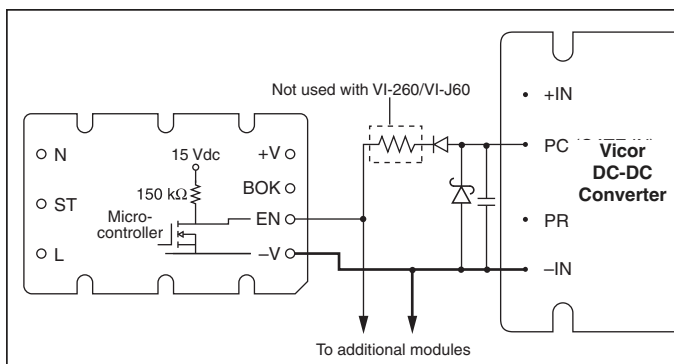

Figure 11 — Enable (EN) function; See Fig.8 for details
Enable (EN) Pin. (See Fig. 11). The Enable pin must be connected to the Gate-In or PC pin of all converter modules to disable the converters during power-up. Otherwise, the